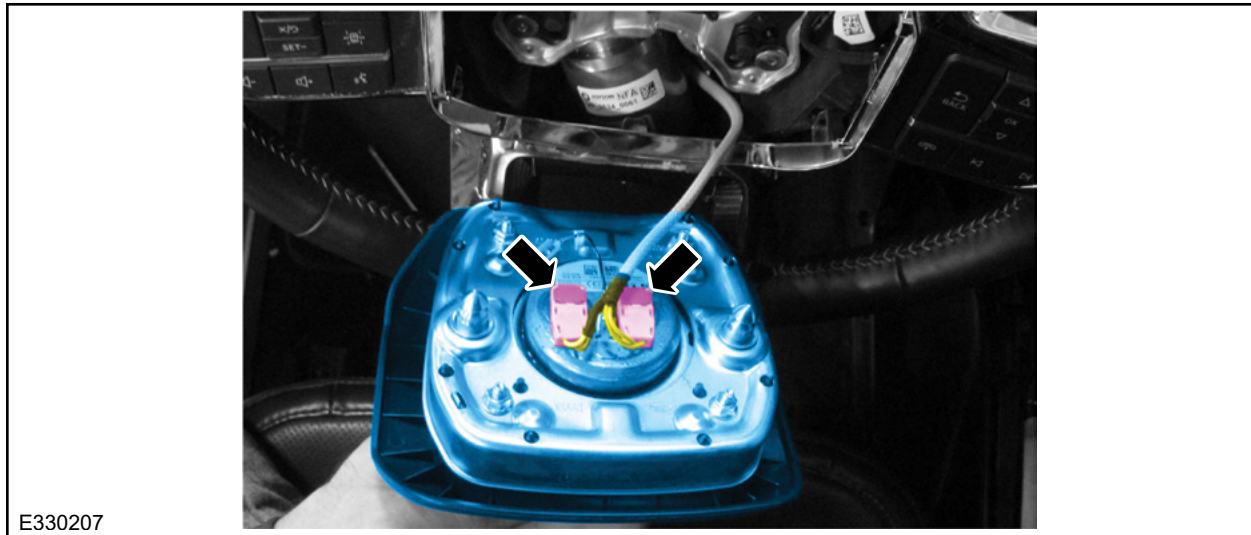

FIGURE 23
1. Connect the airbag electrical connectors. See Figure 23.